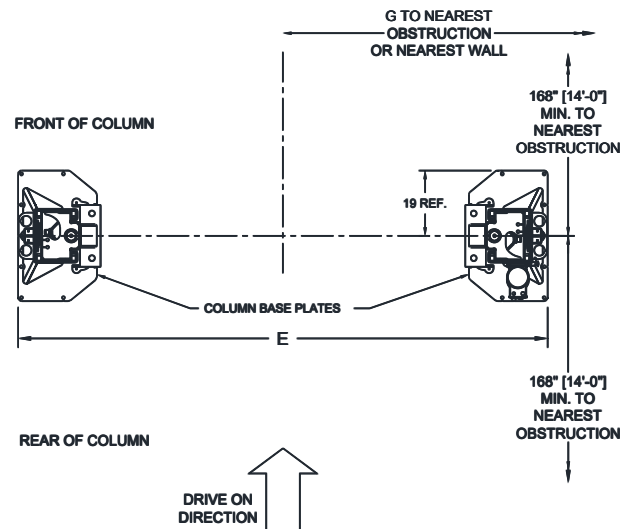

Fig. 1b- Service Bay Layout
- See **Fig 1** for the lift layout. Determine which side of the bay that the power unit will be on and identify the column assembly with the power unit bracket. Layout the service bay according to the architect's plans or owner's instructions (**see Fig. 1b**). **Failure to install in this orientation can result in personal and property damage.** Be certain that the proper conditions exist, see pg. 3.